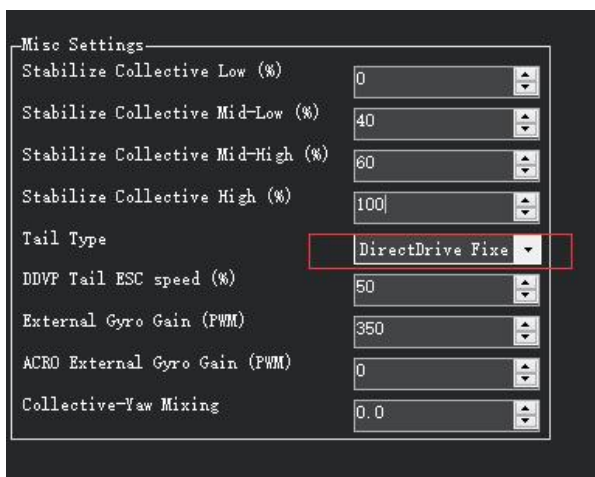
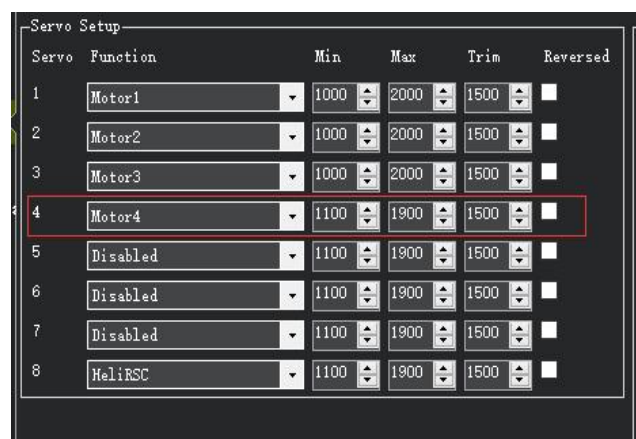

Figure 7 Select Direct Drive Fixed Pitch Clockwise
Figure 8 Set Output Channel
4. Direct Drive Fixed Pitch Clockwise (DDFP CW): Tail rotor is driven by a motor whose ESC is controlled by ArduPilot to maintain yaw stability and yaw direction. Used with clockwise rotating main rotors, when viewed from above. As shown in Figure 7 below, select Direct Drive Fixed Pitch Clockwise (DDFP CW) in the Tail Type drop-down menu to configure clockwise motor drive fixed pitch to control. As shown in Figure 8 below, set the parameter SERVOx_FUNCTION to "Motor4" to control the tail motor. (The default output channel is channel 4.)